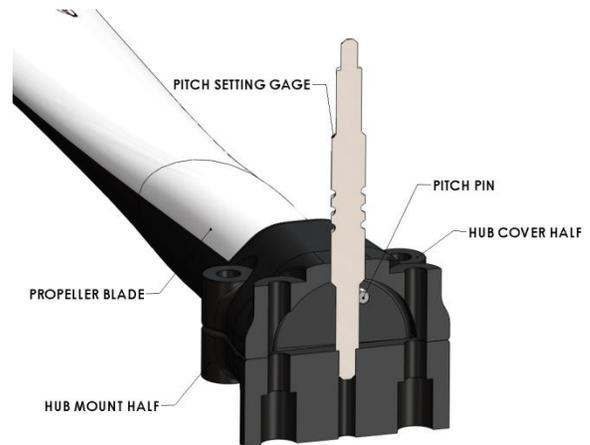

FIGURE 4. PITCH SETTING GAGE
hole in the hub mount half. See **Figure 4**. Use pitch setting gage #3 to start. The pitch setting # indicates relative pitch; pitch #5 is higher pitch than pitch setting #4, etc...
4. Insert the desired pitch setting gage thru the clearance hole in the hub cover half and into receiving hole in the hub mount half. See **Figure 4**.